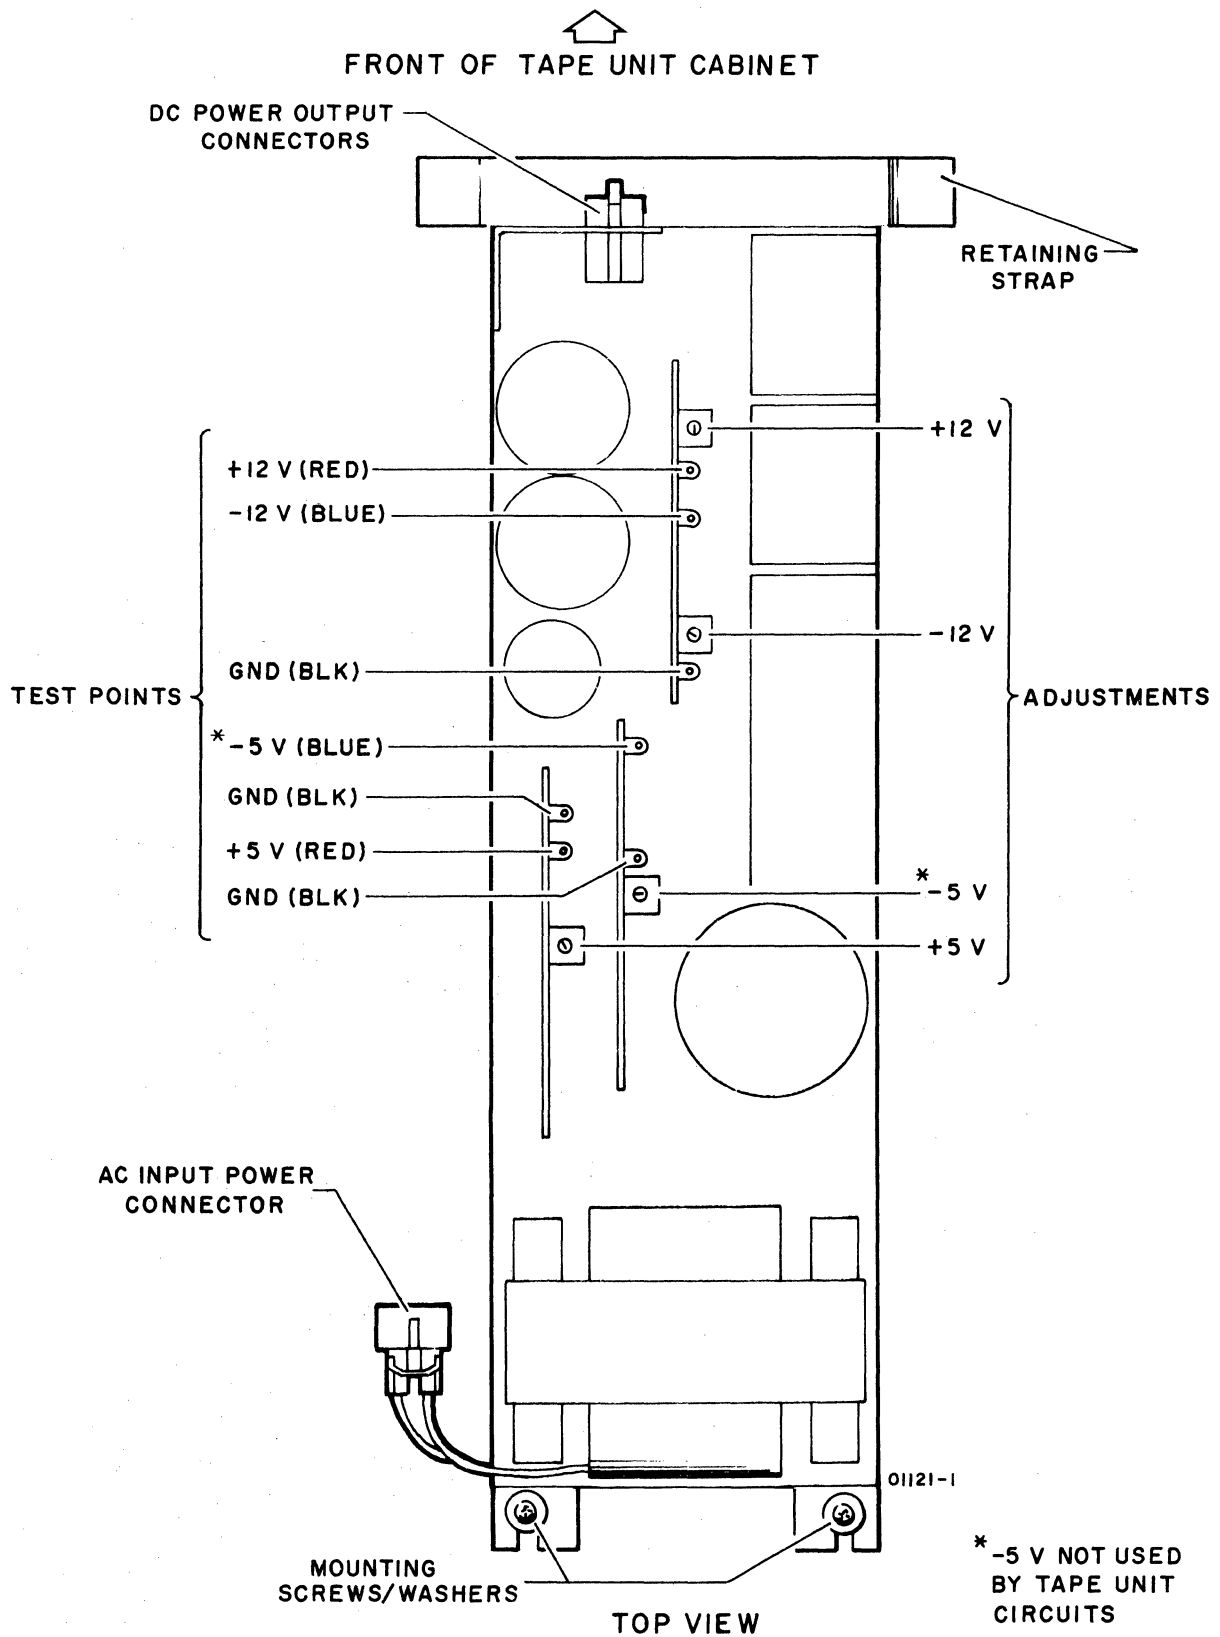

Figure TCU4. Power Supply (Test Points, Adjustments and Connections)
- 3) Refer to figure TCU4, set meter to appropriate range for good scale deflection, and measure each output voltage at test points shown (use ground test point on each card to measure voltage(s) on that card). For any voltage more than $\pm 5\%$ from its nominal specified in figure TCU4, continue measuring output while adjusting per following step.
- 4) To adjust any output voltage, refer to figure TCU4 and gradually turn identified adjustment screw until voltage is within $\pm 5\%$ and as close as possible to exact nominal voltage.
- 3) Disconnect ac input power connector at power supply transformer (figure TCU4). Also remove any cable tie from short cable to transformer.
- 7) Disconnect both dc output power connectors at bracket (figure TCU4).